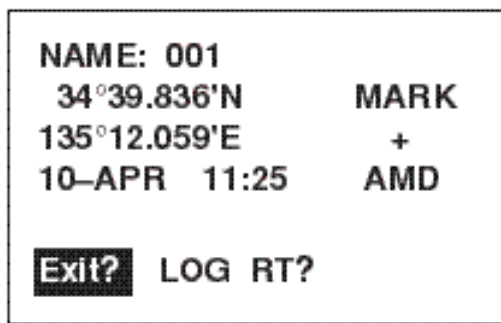

Figure 4-12 Waypoint data screen
8. Select ROUTES and press the [ENT] key. Your screen should now look something like the one shown in Figure 4-12.